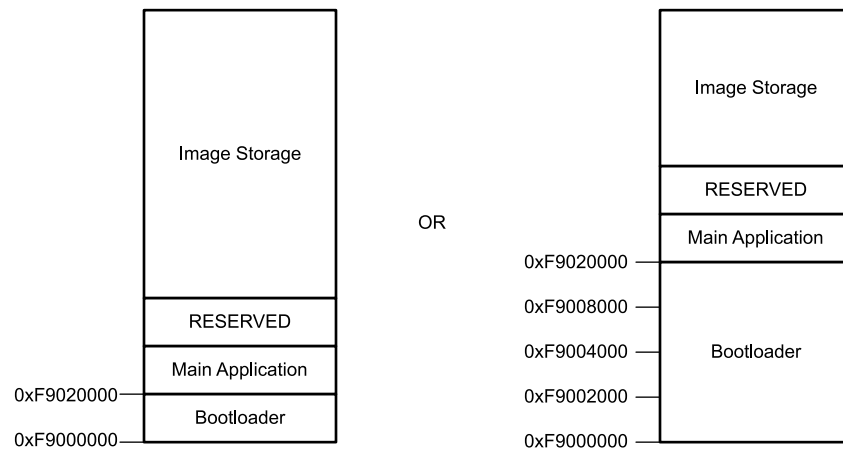

図 7-2. Boot Flash Memory Layout
All applications require both the controller and DMD components for reliable operation. The system uses an external parallel flash memory device loaded with the DLPC900 configuration and support firmware. The external boot flash must contain a minimum of two sectors, where the first sector starts at address 0xF9000000 which is the power-up reset start address. The first 128 kilobytes is reserved for the bootloader image and must be in its own sector and can be made up of several smaller contiguous sectors that add up to 128 kilobytes as shown in Figure 7-2. The remaining sectors contains the rest of the firmware. The default wait-states is set for a flash device of 120ns access time. For a faster flash access time, refer to the Section 7.2.1.2.1.4.2 on how to program new wait-state values.
- PM_CSZ_1 – dedicated CS for boot flash device (≤ 16 megabytes). Refer to the Figure 7-2 for the memory layout of the boot flash.